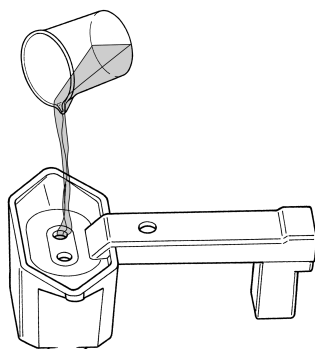

Figure 9
A portion of the second fuel sample is poured from the beaker into the tester's fuel test ports. The tester's funnel/bowl does not have to be completely filled to perform an accurate test. Twenty (20) milliliters of fuel is sufficient to perform this test. (*see figure 9*). The fuel can enter the test cell through either of the two fuel test ports. A good indication that you have enough fuel in the tester is when the fuel is at least at the top of each fuel test port.